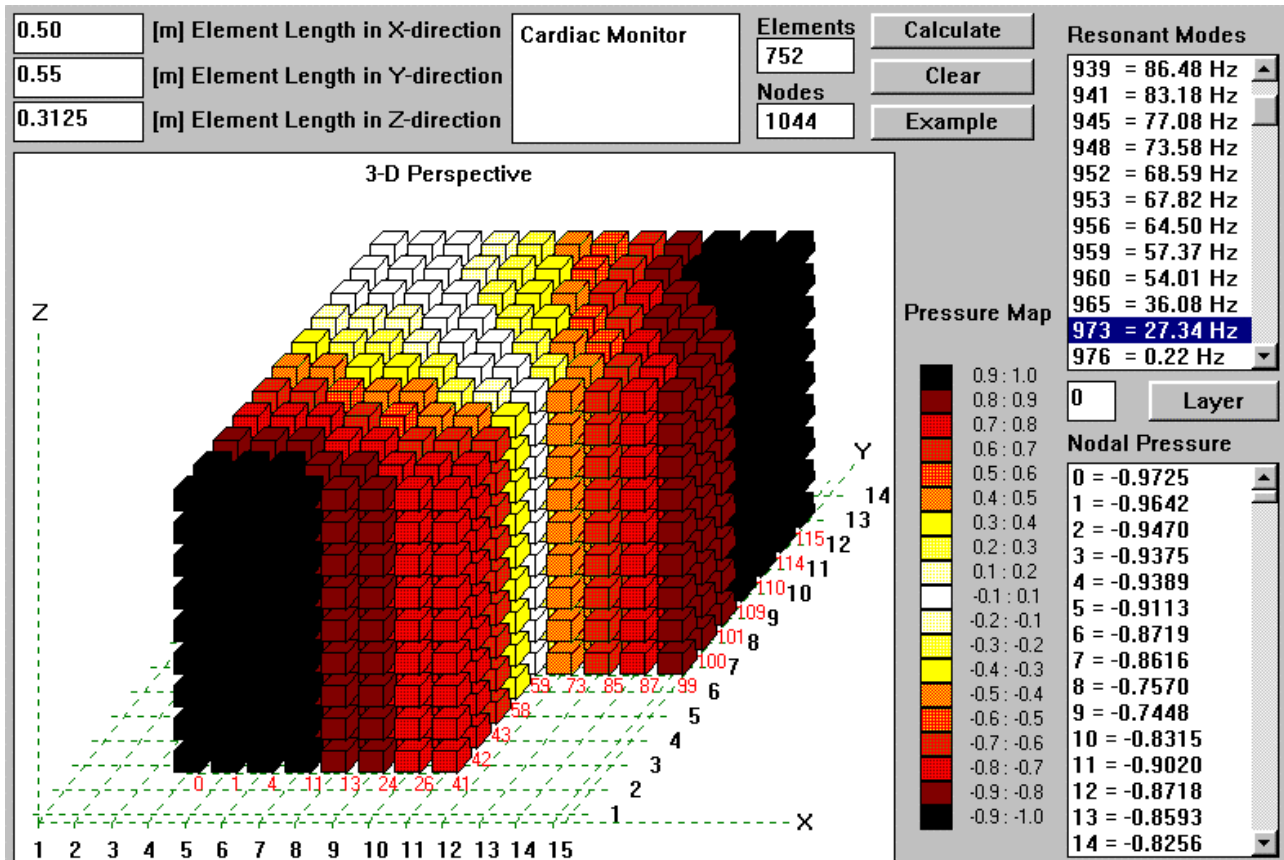
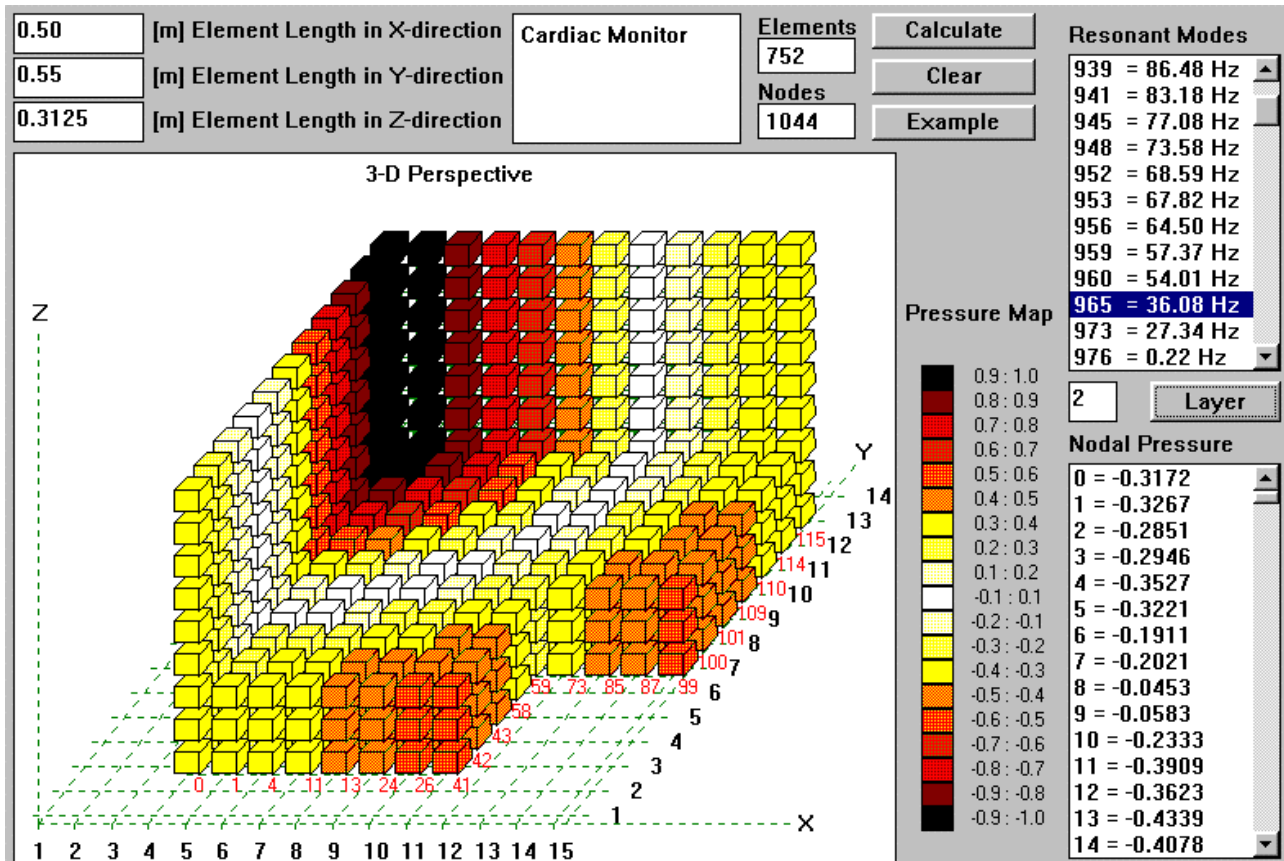

Figure 6. Pressure distribution of the 27Hz (lowest) mode
Figure 7. Pressure distribution of the 36Hz mode
1. Fig 6 shows pressure distribution of the 27Hz (lowest) mode. It appears as a straight line between C-F corners.
2. Fig 7 shows pressure distribution of the 36Hz mode, which appears as gently curved line running from X=3,Y=7 to X=11,Y=13 coordinates.
For the given room dimensions, the lowest mode is 27Hz and it can only develop if you place the loudspeaker in corner E and select your listening position in corner A (see Fig 6). Area to avoid for listening position is the straight line between corners C-F. The second lowest mode is 36Hz (see Fig 7) and this one is not readily predicted without the FEM method. To energize this mode, I would place the second loudspeaker right in the F corner and avoid listening positions half-way along the walls F-E and A-F and also middle of the room.